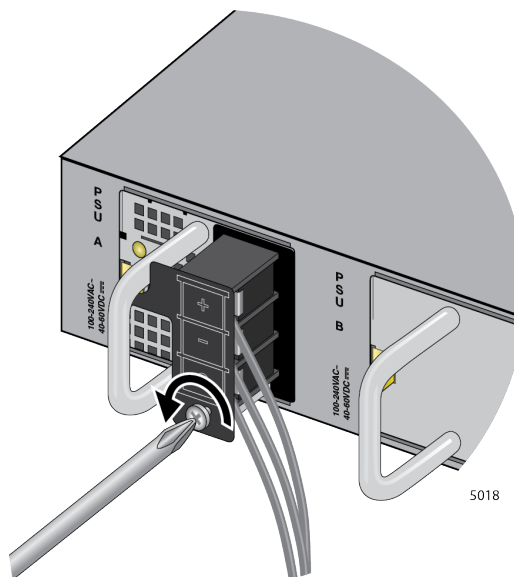

Figure 147. Loosening the Screw for the Panel
3. Loose the screw for the connector panel with a Phillips-head screwdriver. Refer to Figure 147.